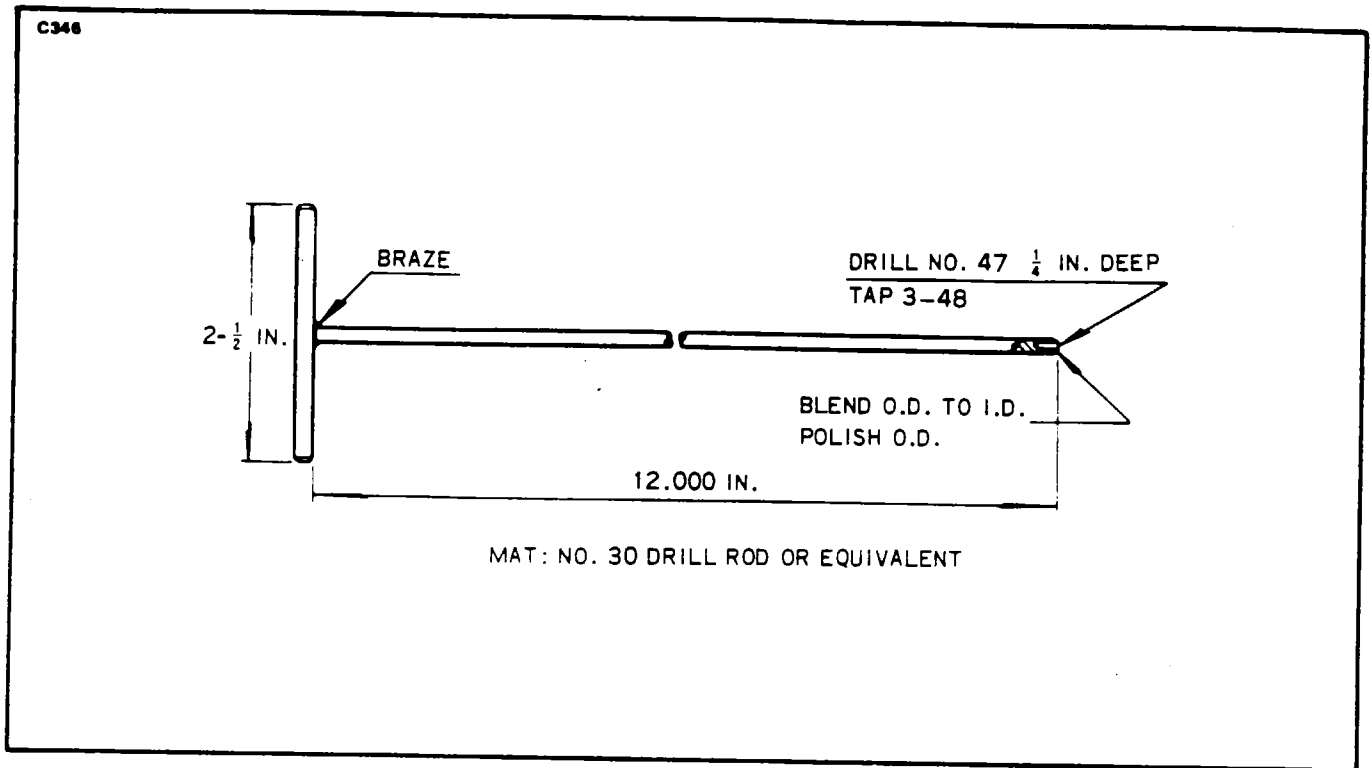

Figure 8-27. Assembly Tool
1. Fabricate a tool as shown in Figure 8-27 for installing the insulating sleeves over cable terminals.